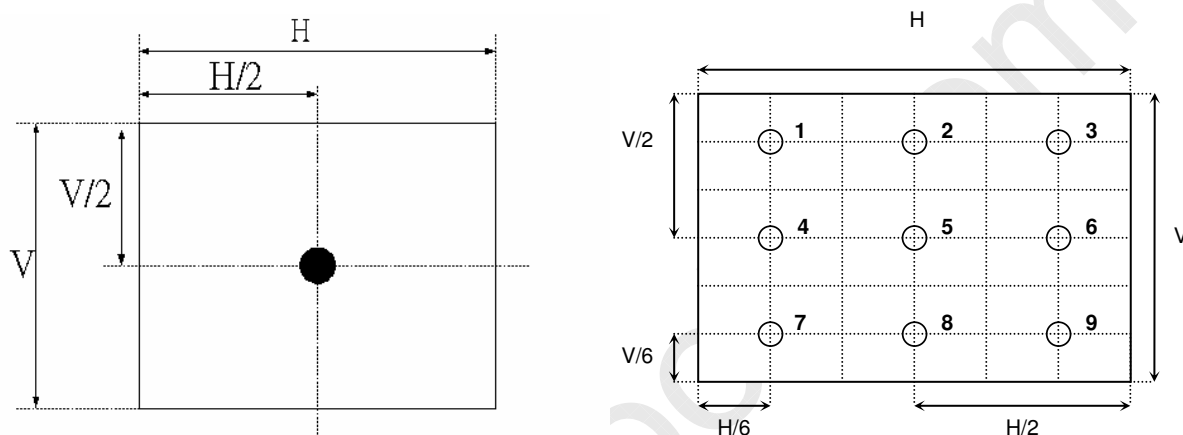

Fig.4-2 Optical measurement point
2. Surface Luminance is luminance value at point 5 across the LCD surface 50cm from the surface with all pixels displaying white. For more information see Fig. 4-2. When lamp current $I_H=8.5\text{mA}$, $L_{WH}=L_{on5}$, where L_{on5} is the luminance with all pixels displaying white at center 5 location.